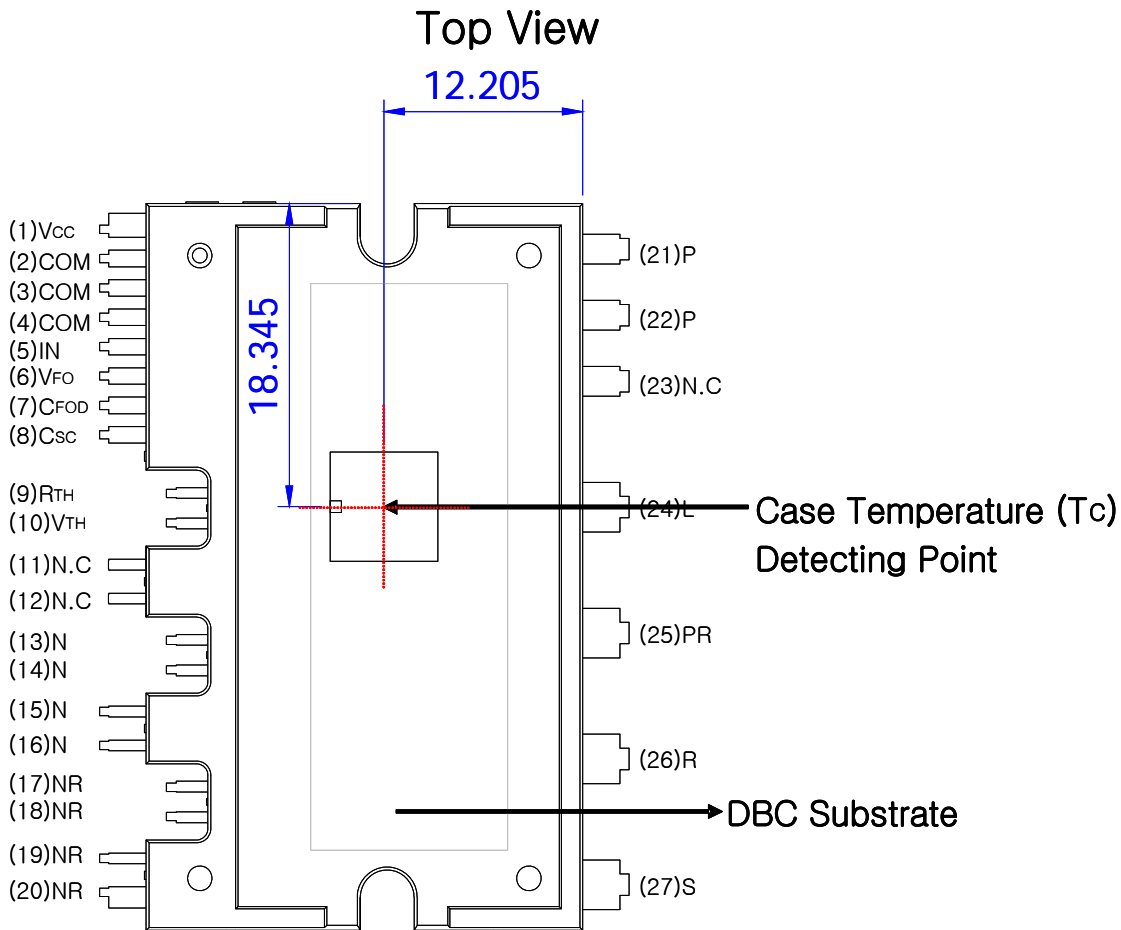

Figure 2. Top View
1. For the measurement point of case temperature(Tc), please refer to Figure 2.